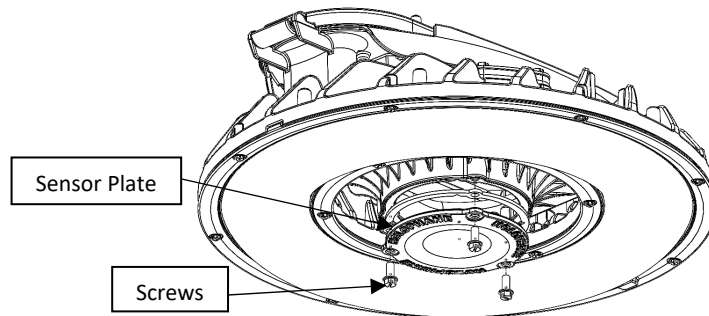

Figure 4.2.1: Sensor Plate Removal
2. Remove the three 1/4-20 screws that attach the sensor cover plate to the driver housing (see Figure 4.2.1).